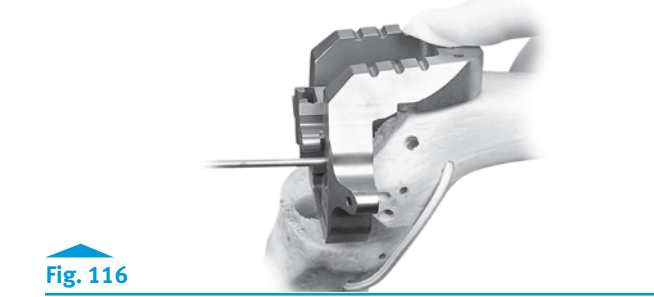

Fig. 116
- Insert the entire assembly into the femoral canal over the headless pins (Fig. 116).